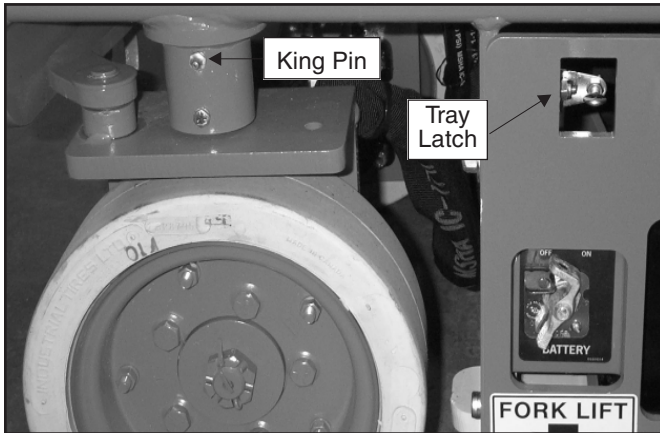

Figure 3.6—King Pin and Tray Latch
- King pins (figure 3.6)
- Tray latches (figure 3.6) and hinges
Use a grease gun to lubricate the king pins (figure 3.6). Wipe away any excess lubricant from exposed surfaces. Use powdered graphite to lubricate the tray latches (figure 3.6).